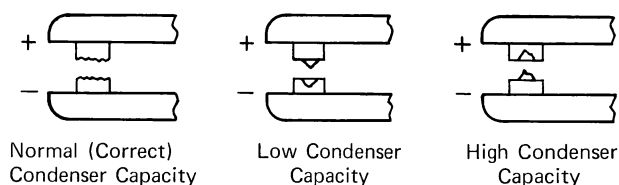
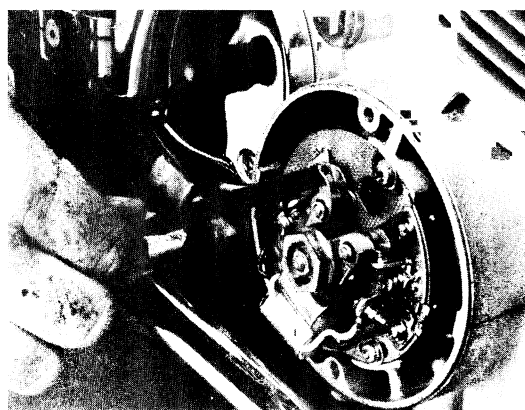

Fig. 21-14 Points-condenser relationship: points normal, deposit positive, deposit negative
Fig. 21-15 Points being filed
**Points Adjustment and Replacement.** With the proper cover removed, inspect the ignition points, looking for blackened or burned contact surfaces, pitting, or metal transfer (Fig. 21-14). Minor unhealthy conditions can be cleaned up with a points file (Fig. 21-15). Rough points should be replaced. Slight metal transfer from one point to the other is normal on most motorcycles. Excessive transfer indicates condenser problems. Be sure no oil is on the point contact surfaces. They can be cleaned with spray contact cleaning solvent.